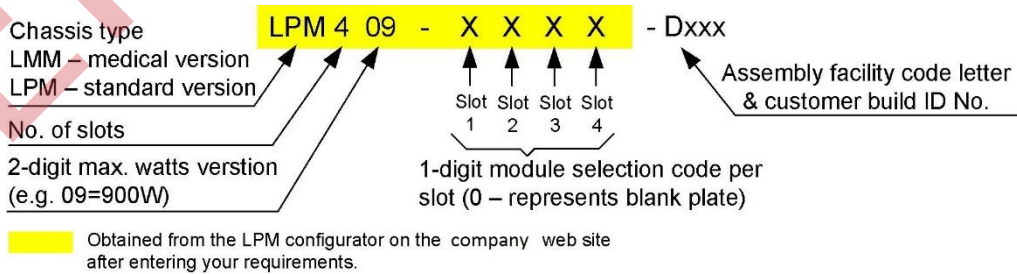

Figure 2. LPM 4-Slot Model Part Number Description
1 To determine your desired power supply's part number, please refer to *Figure 2* for a detailed part number description. Use the LPM Configurator on our website or use our contacts page to locate a distributor for further assistance.
**LPM409** Low Profile Modular 4-slot, 900 W, with single-phase AC input. (Figure 2)